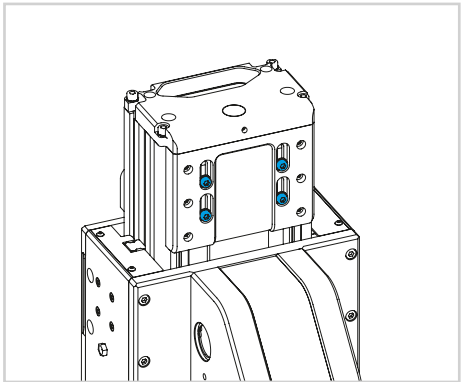

Fig. 2
- 1) Untight the 4 screws which fix the upper belt clamp (Fig. 2).